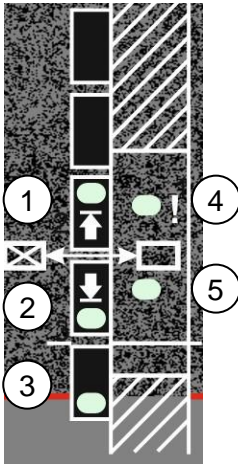

Figure 4 - Smoke control panel
The indicator (3) in the standard version used as "scraper in basic position" (Fig. 4 Smoke control panel) lights up when the contact strip is not actuated.